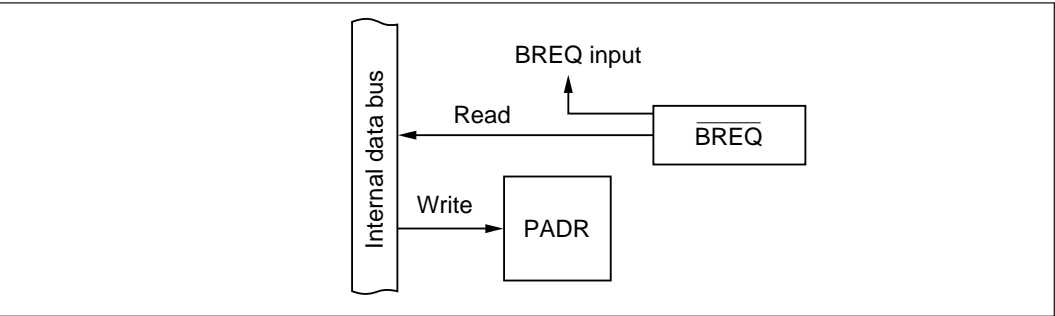

Figure 10-65 $\overline{\text{BREQ}}$ Input Pin (Modes 1 to 6)
(3) **$\overline{\text{BREQ}}$ Pin (PA₅; Modes 1 to 6):** Figure 10-65 shows a block diagram illustrating the $\overline{\text{BREQ}}$ function. Table 10-49 indicates register read/write data. When PA₅ is used for $\overline{\text{BREQ}}$ input, the value written in the port A data register (PADR) has no effect.